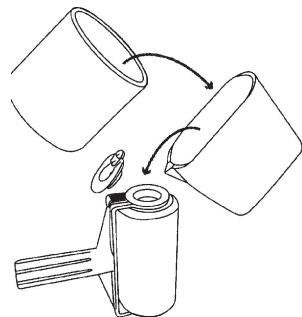

Fig.1
3. Pour up to 900 ml of paint into the Paint Runner using the Easy Pour Jug (Fig.1).